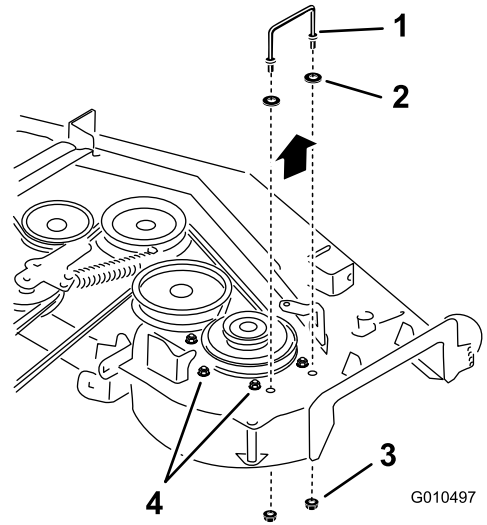
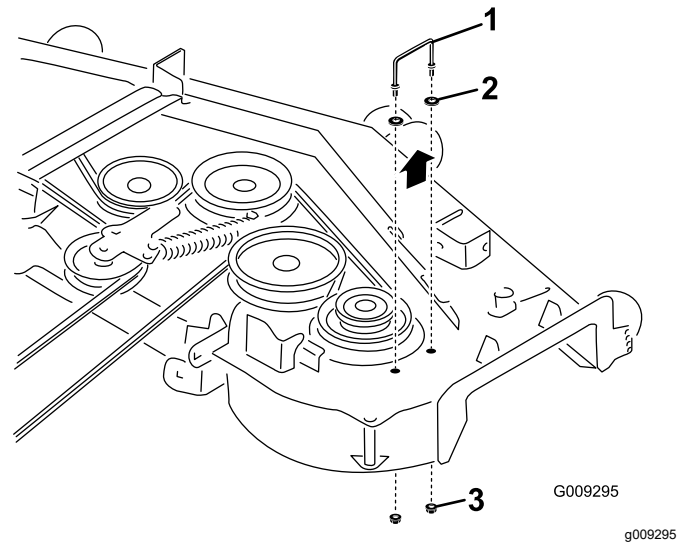

Figure 3
Figure 4
3. **For 48-inch and 52-inch mowers only:** Loosen the bolts holding the right spindle to the mower deck (Figure 3).
4. Remove the existing right belt cover bracket (Figure 3 and Figure 4).